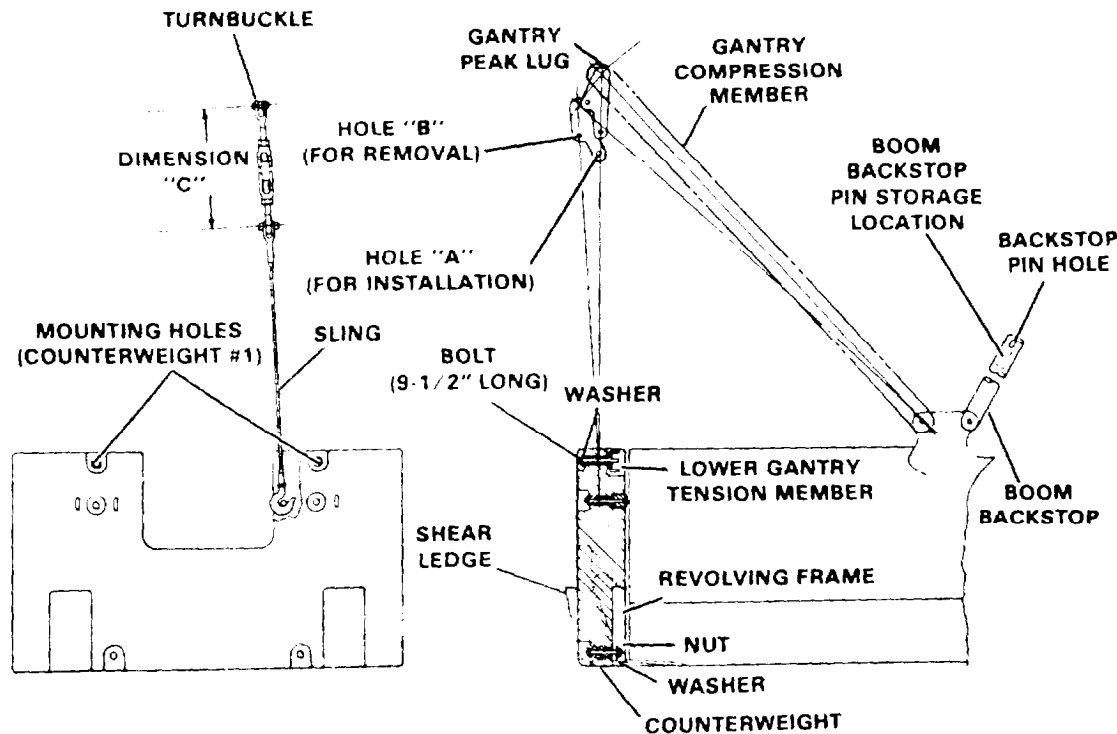

Figure 4-8. Cast Iron Counterweight (2100J970-4)
COUNTERWEIGHT INSTALLATION. To install the counterweight, proceed as follows (see Figure 4-8):
7. Adjust the turnbuckles to give a dimension of 53-7/16 inches (see Figure 4-8 and Table 4-2).
To remove the counterweight, proceed as follows (see Figure 4-8):
6. Adjust the turnbuckles to give a dimension of 61-1 1/16 inches (see Figure 4-8)